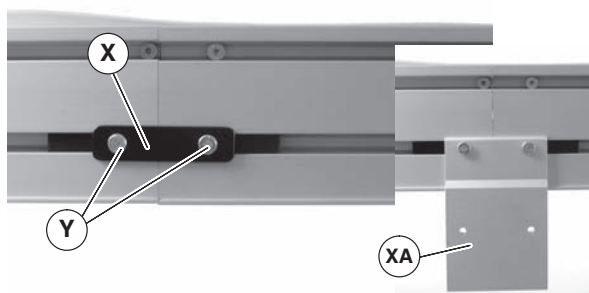

Figure 8
4. Join additional conveyor sections if necessary and install connector brackets (Figure 8, item X) or connector/mount brackets (XA) and screws (Y) on both sides as indicated. Tighten screws to 60 in-lb (7 Nm).